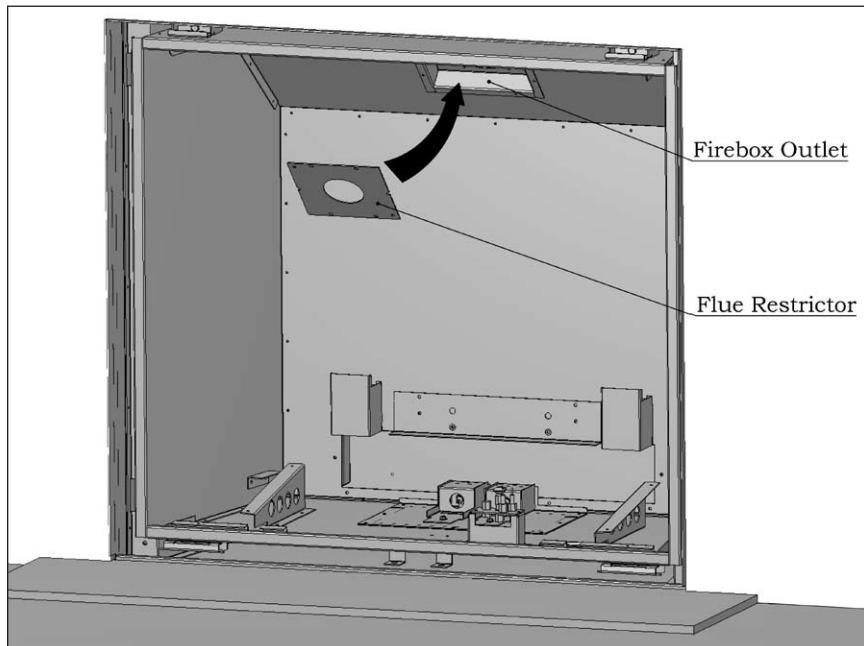

Figure 25: Installation of Flue Restrictor.
- 5) Using the two (2) 1/4" T-20 screws provided with the restrictor, fasten the Restrictor into the Flue Outlet as shown in Figures 25 & 26. Make sure the diagonal holes line up with the diagonal holes located in the Flue Outlet Box Use a powered driver to drive the screw in. Be careful not to over-torque the screw and strip the threads.